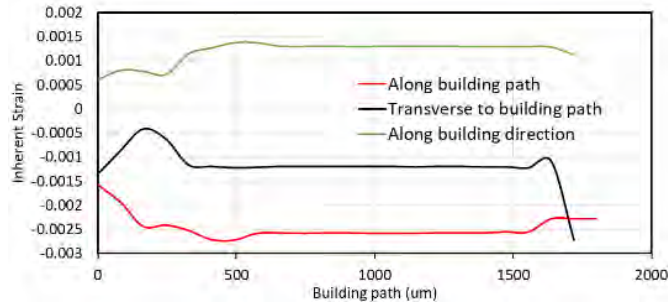

Fig. 4 Inherent strain components distribution of bottom layer.
According to the results of process model and Eq. (1), the inherent strain components are extracted and plotted in Fig. 4. The inherent strain components in three directions are stable in the middle region of specimen, and varying values can be observed in the boundary region. The steady values in Fig. 4 are used as the inherent strain components which are (-0.0026, -0.0013, 0.0013). This inherent strain will be used in the part scale simulation for the residual deformation prediction of 3D printed AlSi10Mg products.